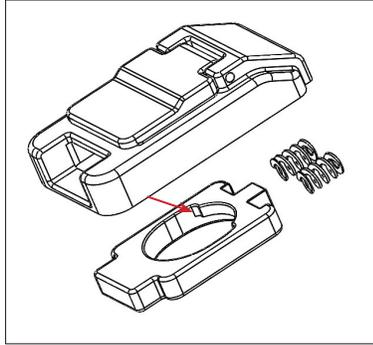

Fig. 7
7. Assemble the replacement air inlet assembly as shown in Fig. 7 & 8. Note the orientation of the sliding trigger within the air inlet housing; the internal lip on the trigger should be closer to the door in the housing. Once assembled, ensure that the trigger can be depressed and returns when released.